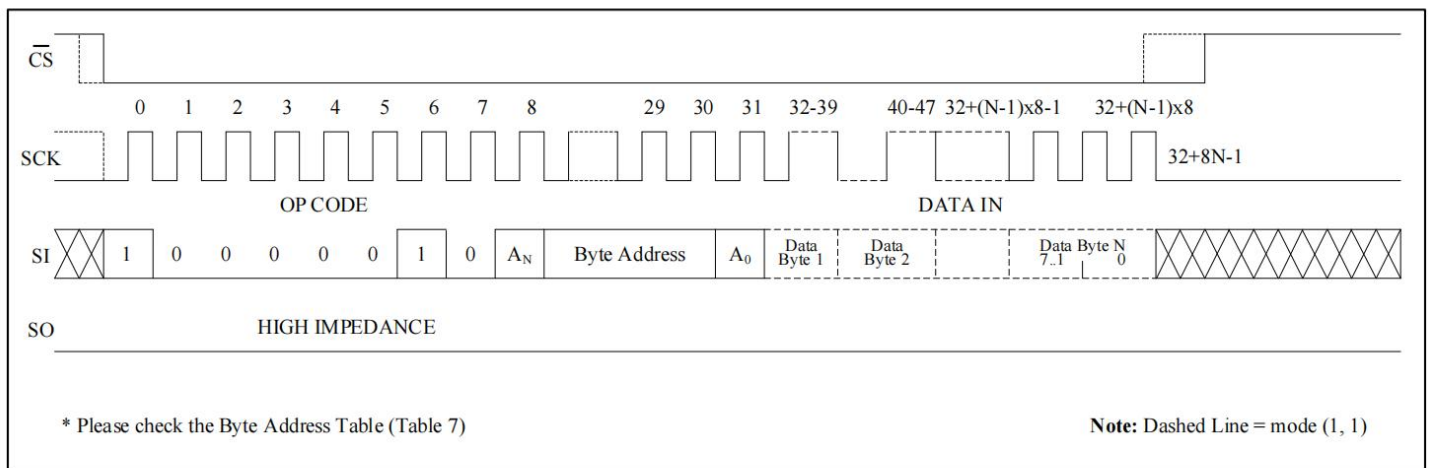

Figure 6
**Write Identification Page:** The additional 256-byte Identification Page (IP) (256 bytes) is an additional page which can be written and (later) permanently locked in Read-only mode. Writing this page is achieved with the Write Identification Page instruction, according to timing shown in Figure 6. Address bit A10 must be 0, upper address bits are Don't Care, the lower address bits [A7:A0] address bits define the byte address inside the identification page. The byte address must not exceed the 256-byte page boundary.
**Write Status Register:** The Status Register is written by sending a WRSR instruction according to timing shown in Figure 6. Only bits 2, 3, 4, 5, 6 and 7 can be written using the WRSR command.